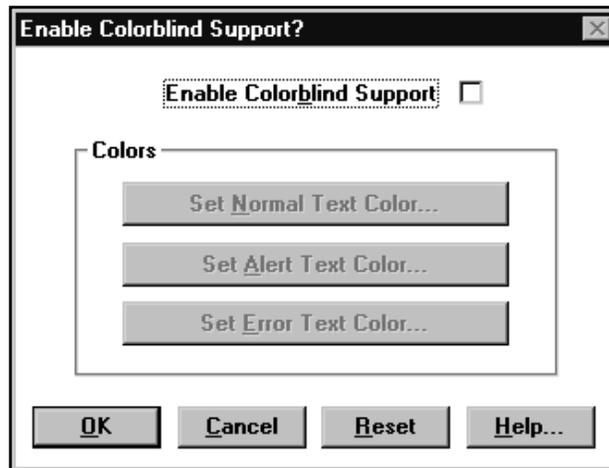

FIGURE 73. Example of Enable Colorblind Support dialog box
1. In the configuration window, select Colorblind Support. (See Figure 73.)